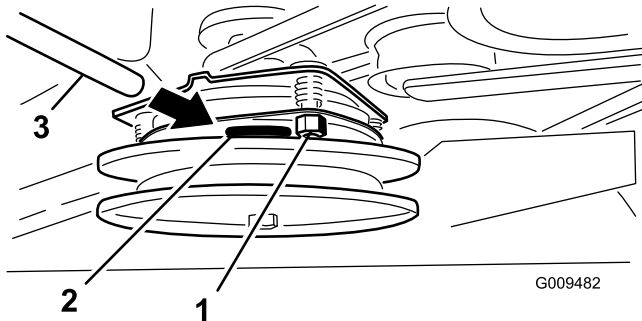

Figure 53
3. Tighten the locknuts until there is a slight binding on the feeler gauge, but it can be moved easily within the air gap (Figure 53).